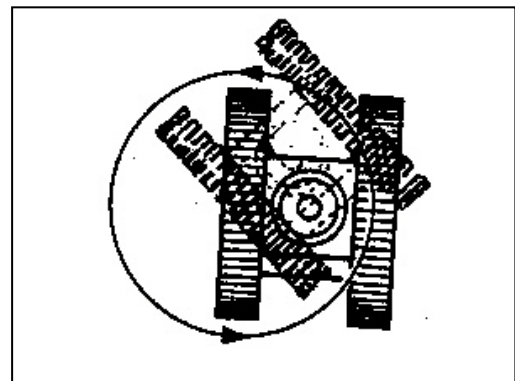

FIG.3-11
4) Turning with one side crawler (FIG.3-11)